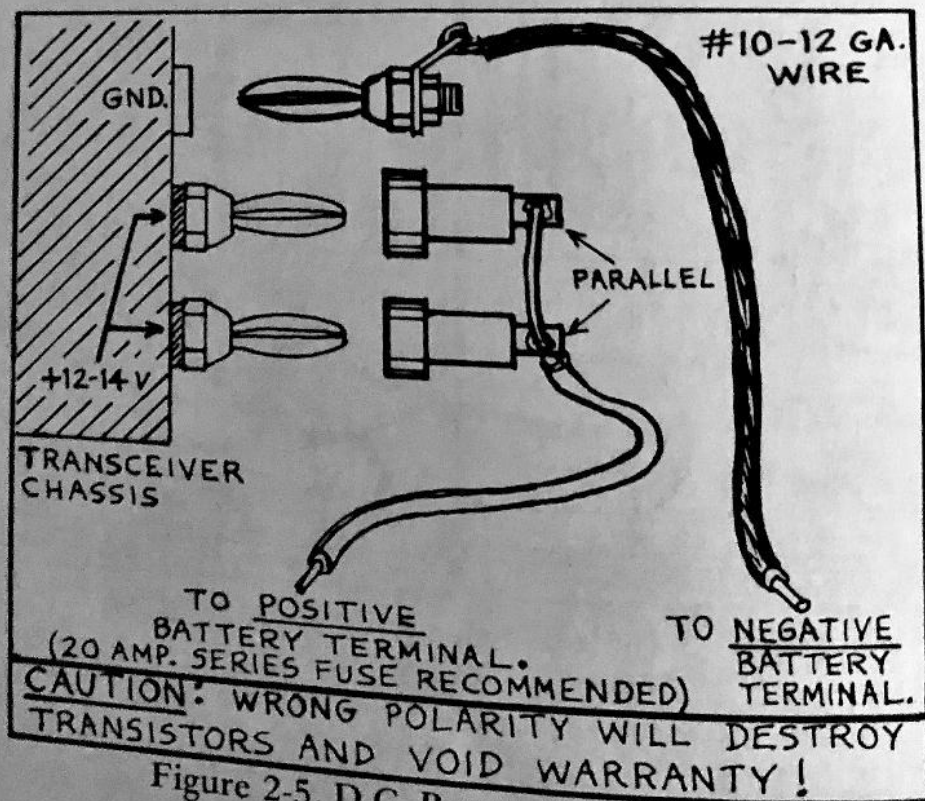

Figure 2-5. D.C. Power Connections
**2-27. OTHER D.C. INSTALLATIONS.** In the event that you have not purchased the DMK, MBK, or DCC kits, your transceiver comes with two banana jacks for the positive battery lead, and are to be connected in parallel as shown in Figure 2-5. The banana plug connects to the negative battery lead. The battery leads should be of No. 10 or No. 12 gauge stranded wire of the automotive type. A 20 amp. fuse or circuit breaker should be installed in the positive lead. Figure 2-5 illustrates the proper connections required between the battery and the Atlas transceiver.